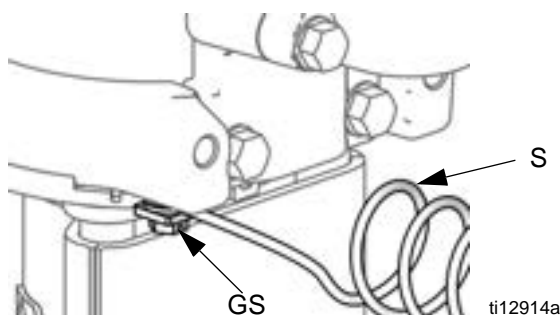

FIG. 4. Ground the Pump.
Pump: See FIG. 4. Verify that the ground screw (GS) is attached and tightened securely to the air motor. Connect the other end of the ground wire (S) to a true earth ground.